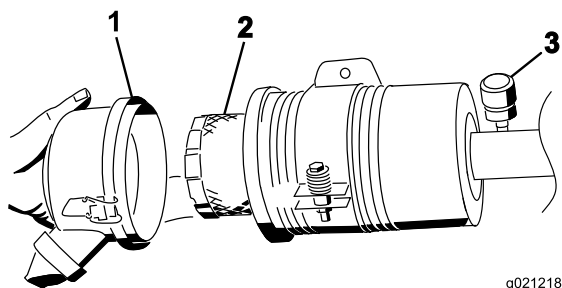

Figure 70
3. Remove and replace the filter (Figure 70).